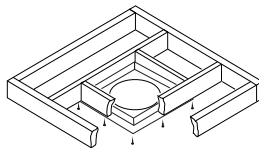

Figure 20 - Installing Firestop
1. Cut a 10" square hole in the ceiling using the locating hole as a center point. The opening should be framed to 10" x 10" inside dimensions, as shown in Figure 9 on page 9 using framing lumber the same size as the ceiling joists. If the area above the ceiling is an insulated ceiling or attic space, nail firestop from the top side. This prevents loose insulation from falling into the required clearance space. If the area above the ceiling is a living space, install firestop below the framed hole. The firestop should be installed with no less than three nails per side (see Figure 20).